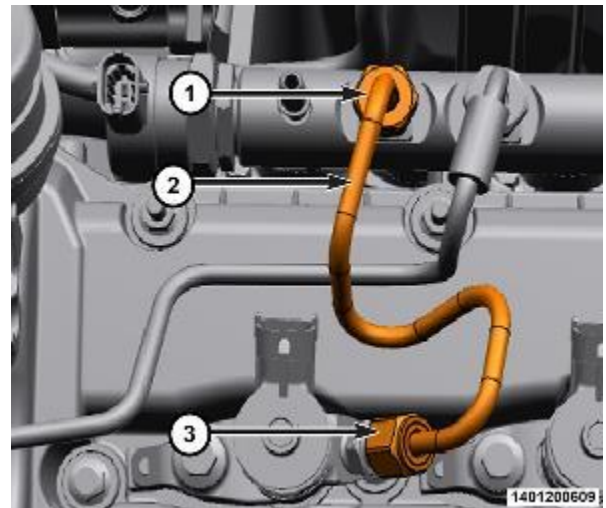

Figure 186 – No. 4 Fuel Tube
22. Unscrew the union nuts (1 & 3) and remove cylinder No. 4 fuel tube (2) and discard the fuel tube (Figure 186).